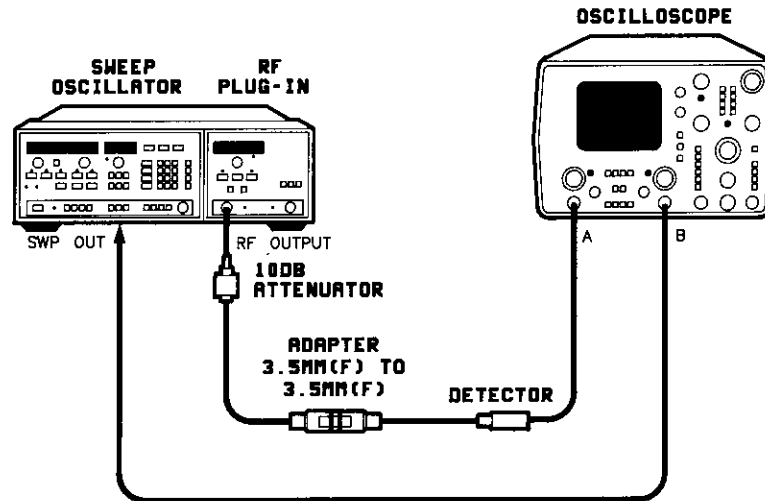
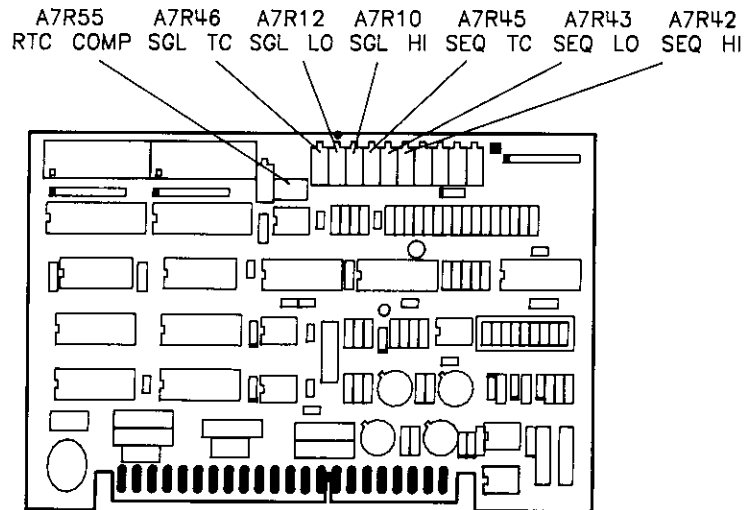

Figure 5-22. SYTM Delay Compensation Adjustment Test Setup
Figure 5-23. SYTM Delay Compensation Adjustment Locations
1. Connect the equipment as shown in Figure 5-22. Do not connect the BNC cable between the HP 8350 rear panel POS Z BLANK and the Z AXIS input connector on the oscilloscope rear panel. Preset A7R45 (SEQ TC) fully counter-clockwise. Refer to Figure 5-23 for adjustment locations. Allow the equipment to warm up for 1 hour.